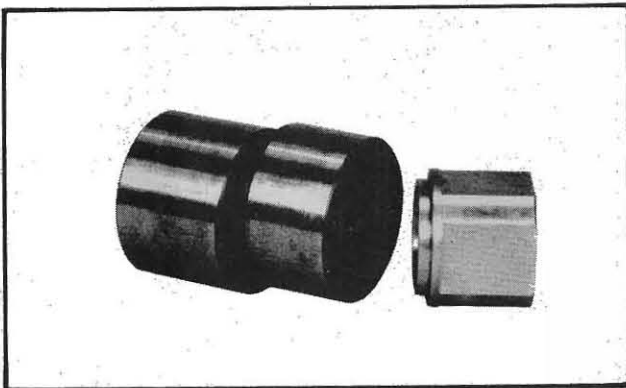

Fig. 311
6. Note the recess in one end of the cam. The bronze bushing, installed in Step 3, fits into this recess, see Fig. 311. Replace the piston and piston drive assembly in